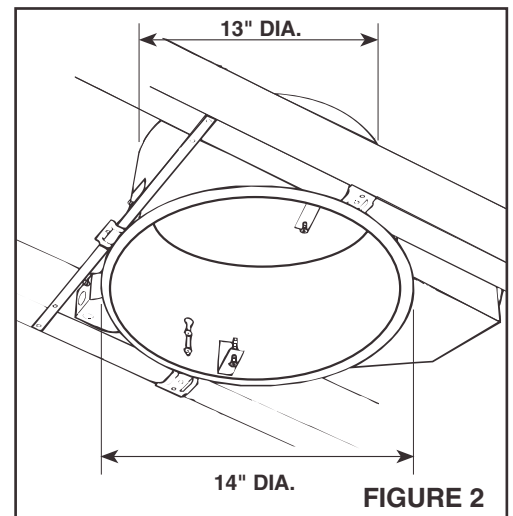

FIGURE 2
2. **Refer to Figure 2.** Position housing between joists with exhaust vent in desired direction. Secure side hanger brackets and ends of adjustable hanger bar to joists with screws or nails.